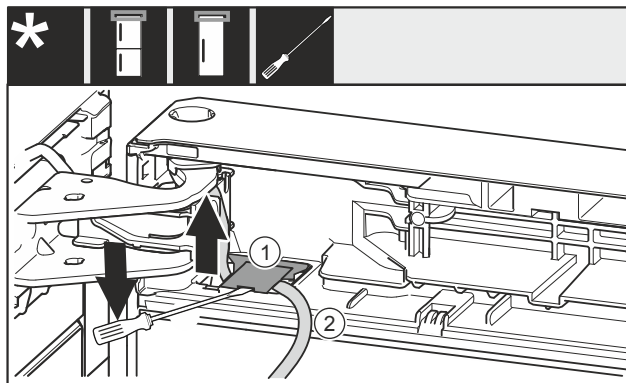

Fig. 24
- Use the screwdriver to lift up the cover *Fig. 24 (1)* and pull it out.
- Pull out the cable *Fig. 24 (2)*.